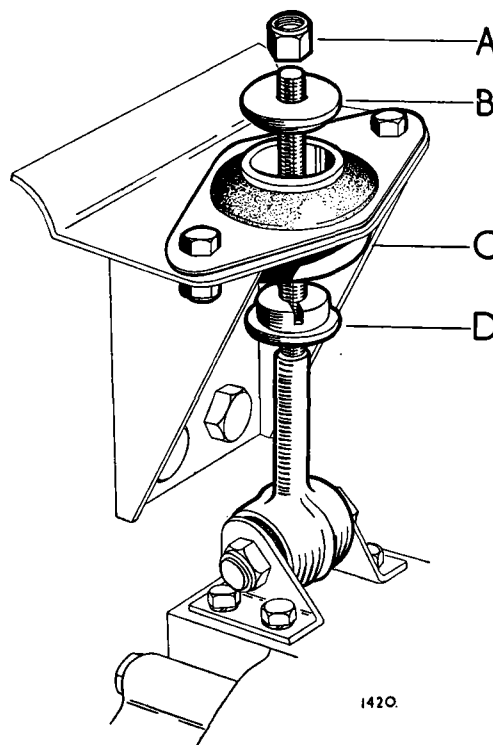

Fig. 60. The engine stabiliser.
Unscrew the self-locking nut A Fig. 60 on the engine stabilizer and remove the upper flanged washer B.
1. Screw the lower flanged washer (D, Fig. 60) up the stabiliser pin until the flange contacts the bottom of the stabiliser rubber mounting (C). The washer is slotted on its upper face and can be screwed up the pin by engaging a thin bladed screwdriver in the slot through the centre hole of the rubber mounting.
2. Fit the upper flanged washer (B) and tighten down with the self-locking nut (A).